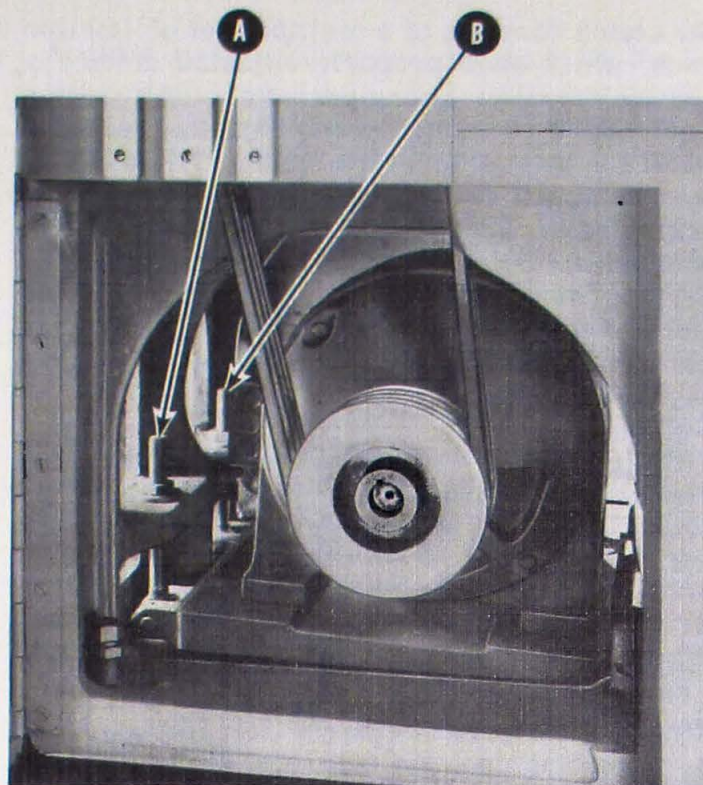

FIGURE 14
The main drive motor is mounted on an adjustable base inside the left hand cabinet leg. This base is hinged at the front and supported at the rear by adjusting bolts (A) and (B), Figure 14.